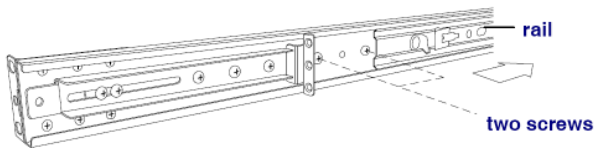

Figure 1 Exposing the 2 screws
1. Move the rail until two screws appear, see Figure 1.